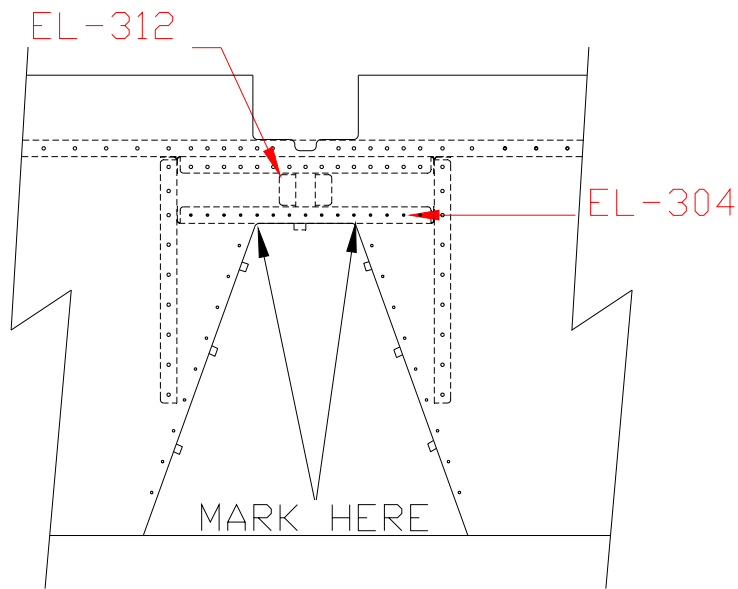

Figure 3.4.5
- 16) Using the trim lines marked on the inside surface of the skin, mark on the Elevator Center Doubler where the ribs will be placed. Figure 3.4.5.